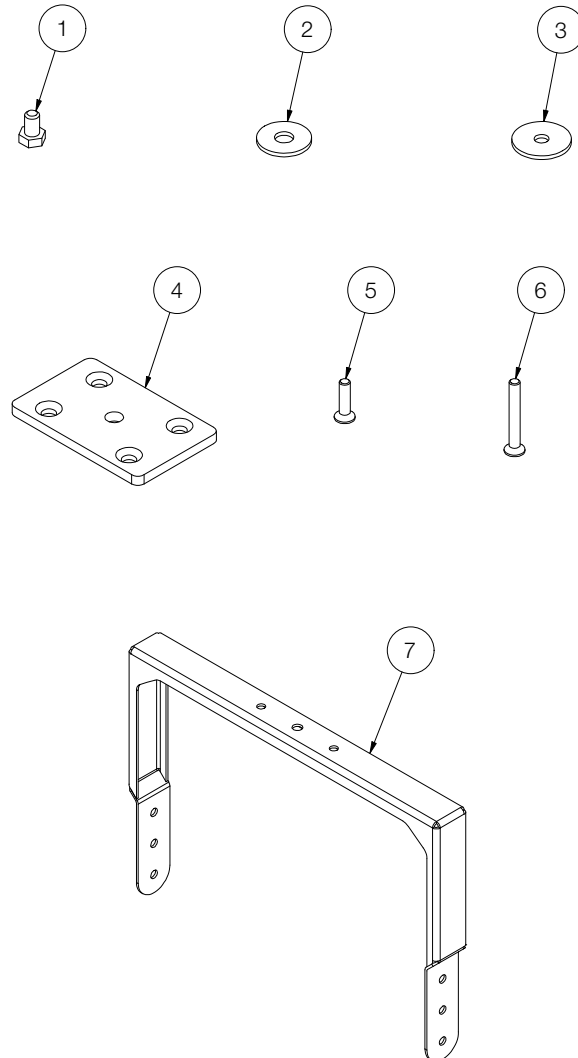
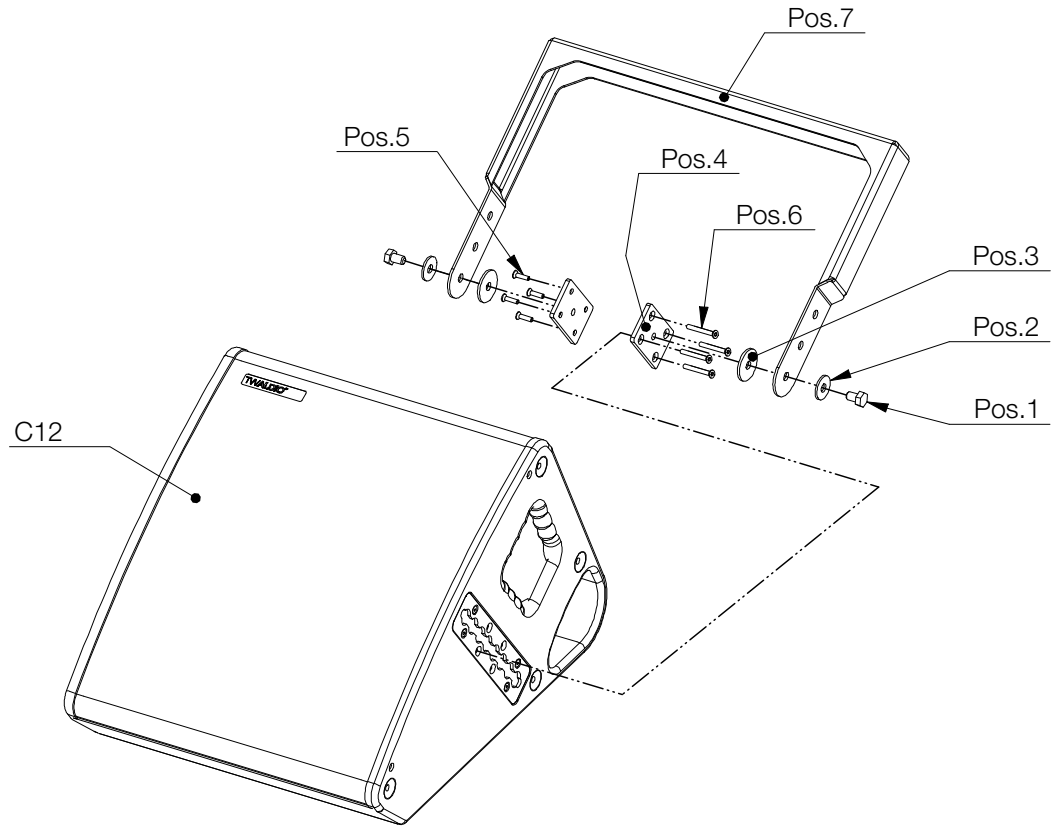

Figure 2.1 - Overview
Figure 4.4.2 - Assembly QBC12 to C12 loudspeaker
Mount positions 1 to 6 (see figure 2.1) on both sides as shown in figure 4.4.2. Note that at pos.7 (see figure 2.1) one of the side holes is used.